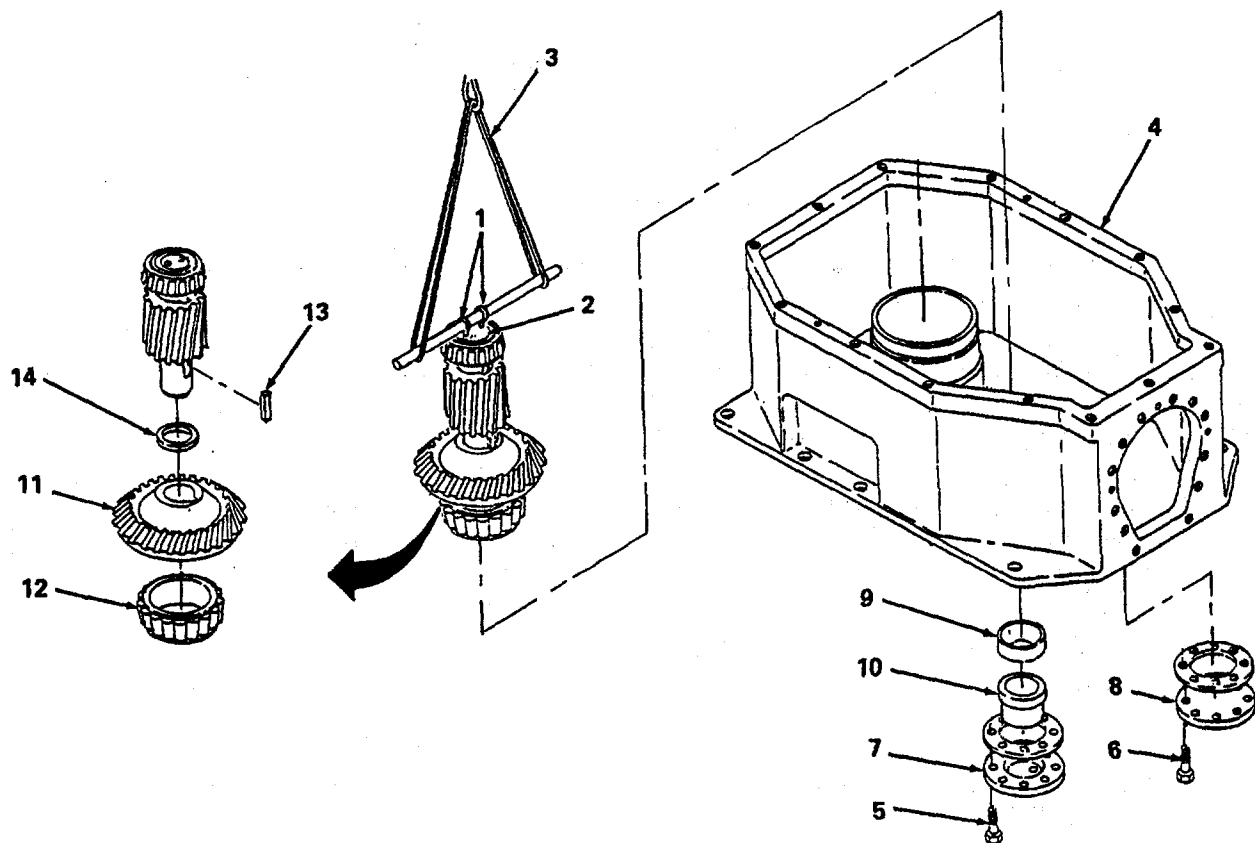

Figure 6-14. Intermediate Shaft Removal.
- (4) Remove and disassemble intermediate shaft assembly.
- (a) Install two eye-bolts (1, figure 6-14) in end of intermediate shaft (2) to provide connection points for lifting sling(3).
- (b) Carefully lift intermediate shaft (2) from housing (4).
- (c) Remove eight screws (5) and eight screws (6) and remove two lower end covers (7) and (8). Retain old shims for reference.
- (d) Remove outer bearing race (9) and bearing spacer (10).